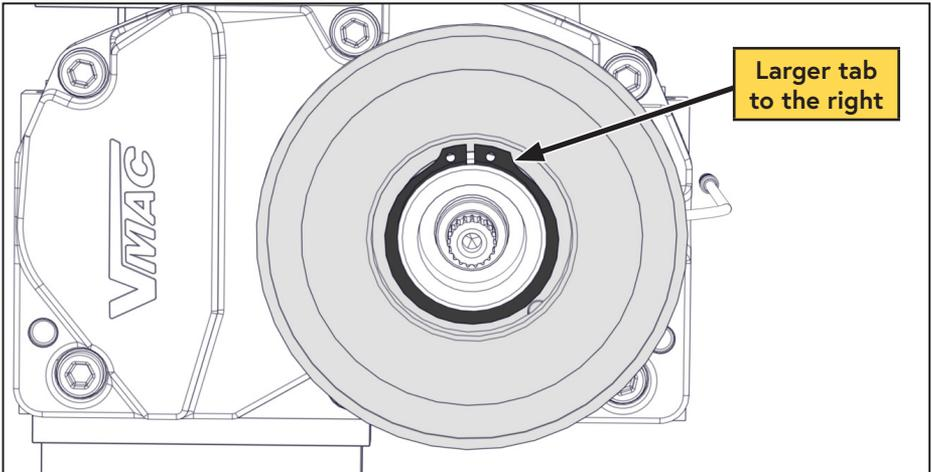

Figure 10 — Install upper snap ring
- Install the upper (smaller) snap ring with the opening at the 12 o'clock position and the larger tab to the right (Figure 10).